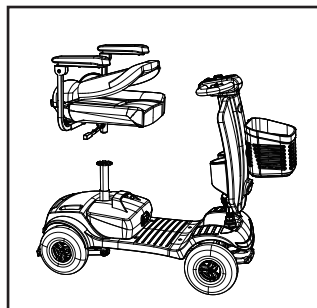

Figure 10
3. Grab the seat base and while pulling the seat lever up, lift the seat vertically (see figure 10).